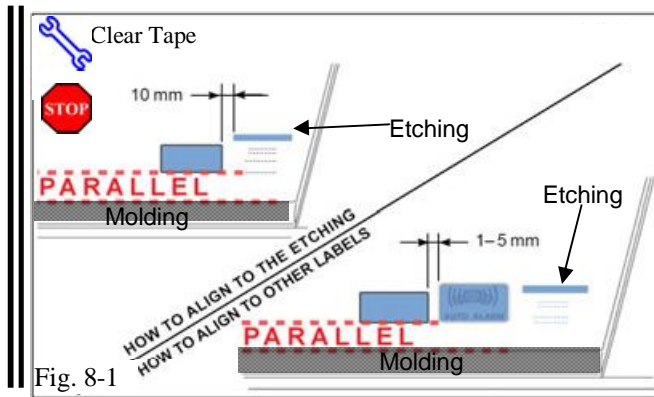

Fig. 8-1
- (a) Use Household Glass Cleaner to clean the inside of the Front Door Window. (Fig. 8-1)
- (c) Attach the V5 Window Label. (Fig. 8-1)
NOTE: Make sure to Align according to Etching or Other Label. (Fig. 8-1)